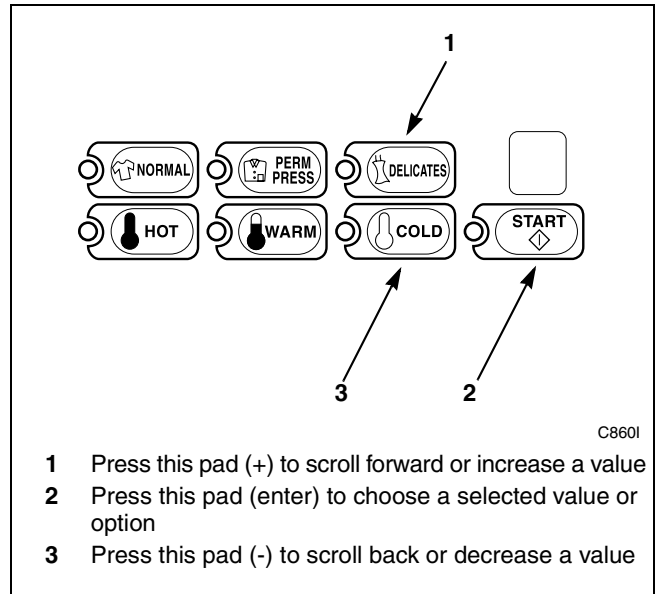

Figure 60
5. Press the DELICATES (+) or the COLD (-) keypad to increase or decrease the end month to the desired month. Refer to *Figure 60*.